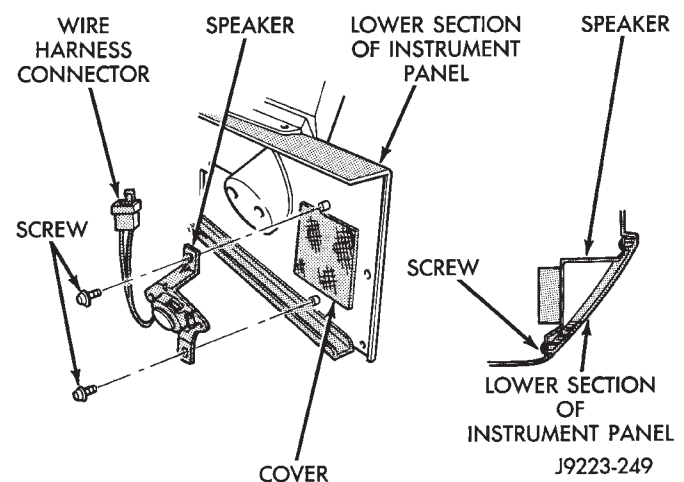

Fig. 19 Tweeter Speaker Removal/Installation
(1) Remove the park brake retaining screw from the lower section of the instrument panel.
(2) Remove the retaining screws from the lower section of the instrument panel.
(3) Remove the lower section of the instrument panel from the upper section.
(4) Disconnect the wire harness connector and remove the speaker screws from lower section of instrument panel (Fig. 19).